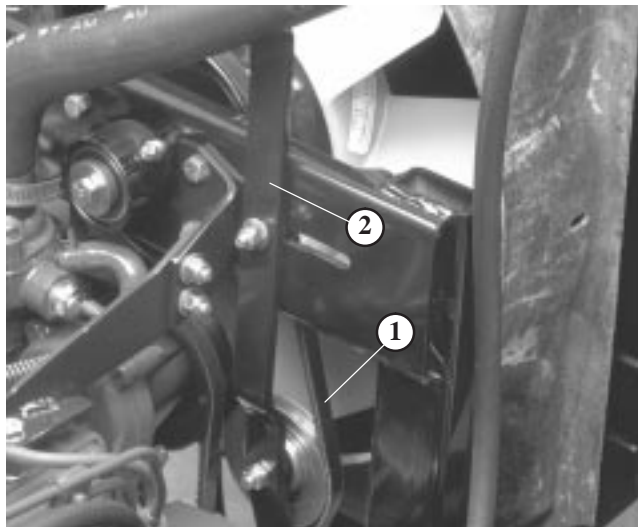

Figure 57
1. Loosen locknut on belt tensioner lever (Fig. 57).